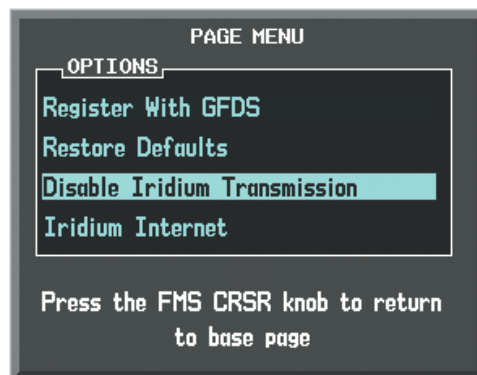

Figure 8-78 Select Disable Iridium Transmission
- 4) Press the **MENU** Key. The Page Menu window is now displayed as seen in Figure 8-78.